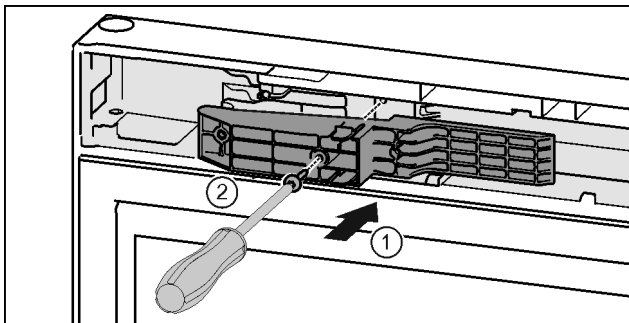

Fig. 48 *
- ▶ 将把手侧的适配件插入凹槽。*Fig. 48 (1)**
- ▶ 用 T15 螺丝刀拧紧螺钉。*Fig. 48 (2)**